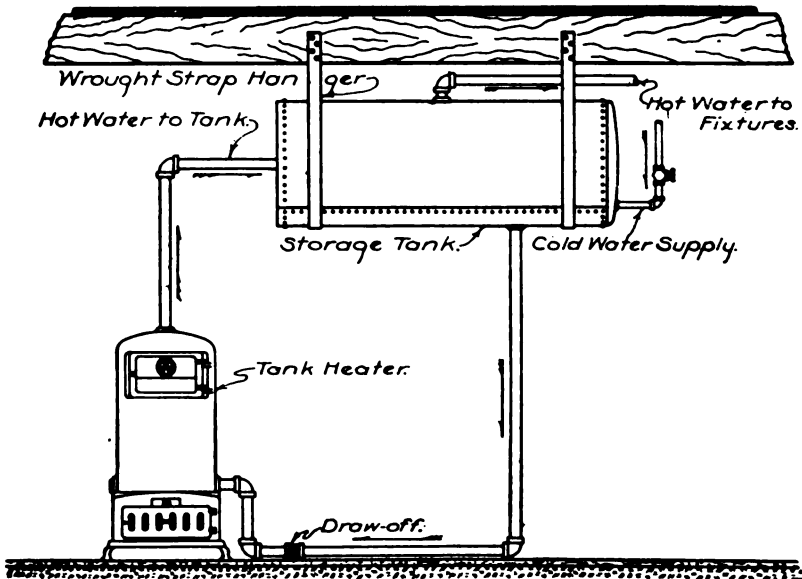

Fig. 79.—Domestic Hot Water Supply—Horizontal Boiler.
A. As shown by Fig. 79. The hot storage water occupies the upper part of the tank and the cooler water in circulation the lower part of the tank. The illustration shows the method of making the various pipe connections.